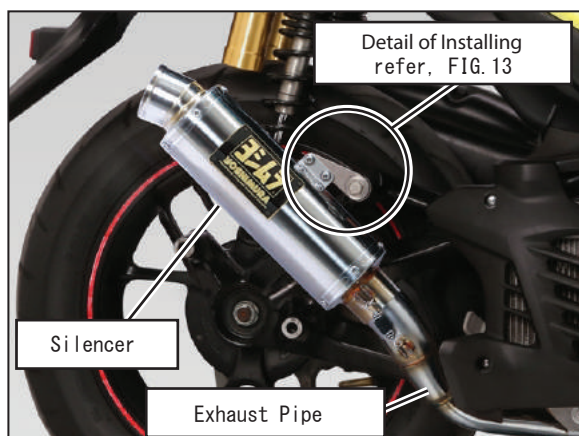

FIG. 12
- 10) Mount Silencer Bracket on Stock Silencer Bracket by Using Stock Bolt and 2-Stepped Spacer 10-26-9. Tighten bolt by hand only at this stage (See Fig. 12, 13).